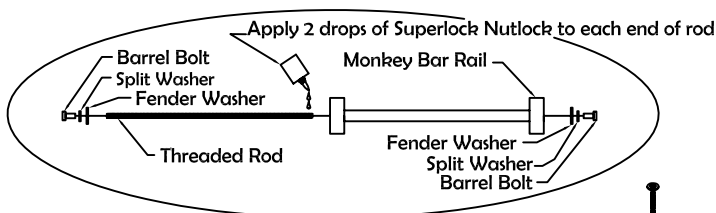

FIG. 9
Step 1: Gather Top Ladder, End Ladder, (2) Triangle Braces & (1) Bottle of Superlock Nutlock
Step 2: Secure Top Ladder Rails & End Ladder Rails with Barrel Bolt & Threaded Rod. (See fig. 9 & 10)